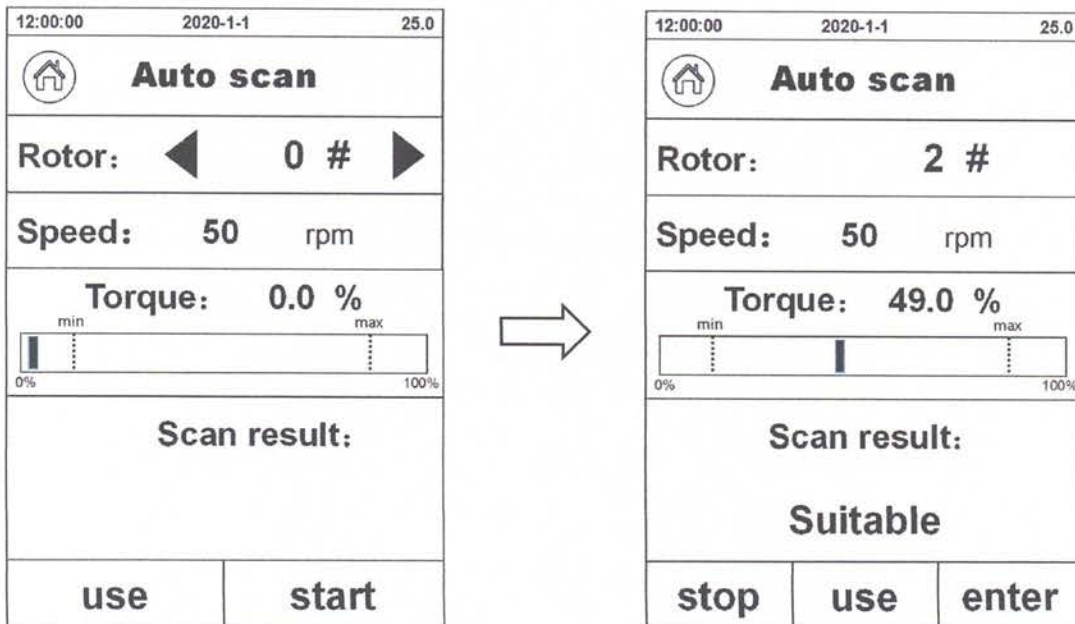

Fig. 23
7) Automatic scan: This function can provide the operator with the best combination of rotor and speed. Click "Auto Scan" in the upper right corner of the parameter setting interface, the interface will switch to the scanning interface (Fig.23), set any rotor, and install this type of rotor at the same time, click "start" to start scanning, and the "Scan Results" column The scan status starts to be displayed. When the scan result meets the test requirements, "Suitable" is displayed at the "Scan result". Click "Use" to directly apply the scan result to the test parameters. If the scan result fails to meet the test requirements, "Please replace the small rotor" or "Please replace the large rotor" is displayed at the "Scan result", and then follow the on-screen instructions.